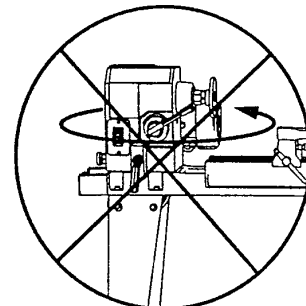

fig. 5
- Warning! DO NOT turn the headstock by more than 180° from the spindle turning position or wiring damage may occur. See fig. 5.**